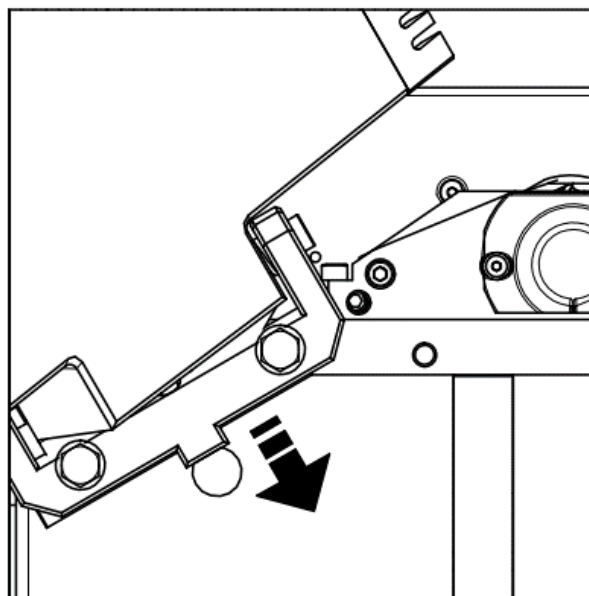

Fig 14
- 8 Before closing the infeed and outfeed tables, keep in mind that the safety latch must be pulled down (Fig. 11.3). (Fig 14)
- 3 Then pull down the hinge locking pins (Fig. 11.3 + Fig. 14) to close the tables.